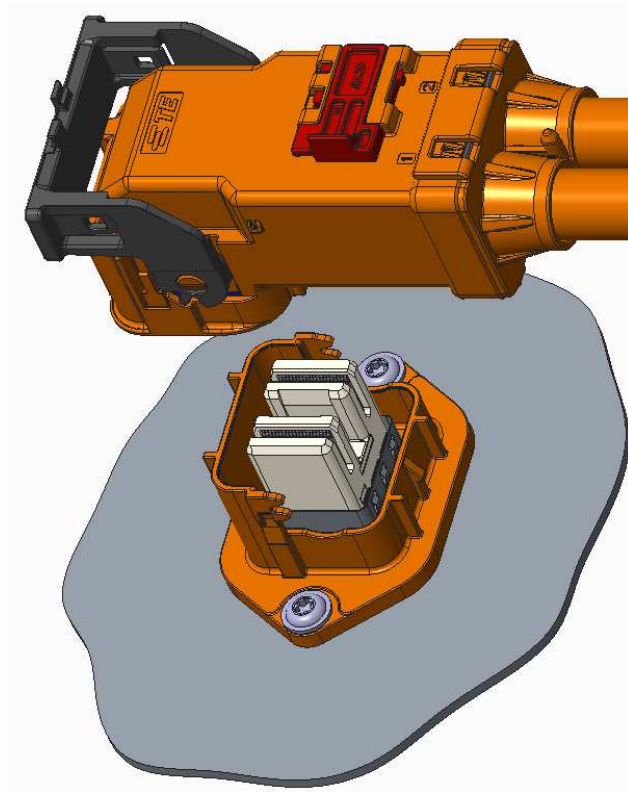

Figure 16: Plug and Header Alignment
2. Align the plug and header connectors as shown in Figure 16.